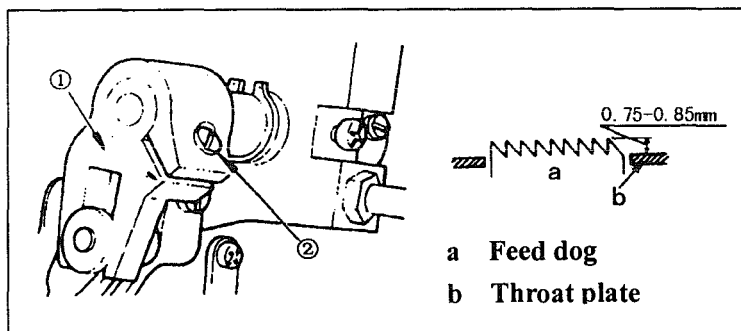

Fig.19
13. HEIGHT OF THE FEED DOG (Fig.19)